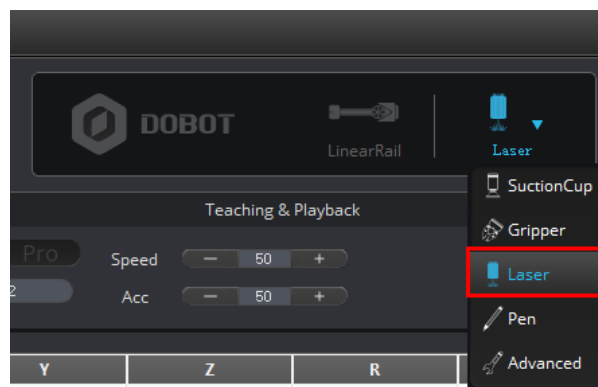

Figure 5.66 Choose Laser as the end-effector
Step 4 Choose **Laser** as the end-effector, as shown in Figure 5.66.